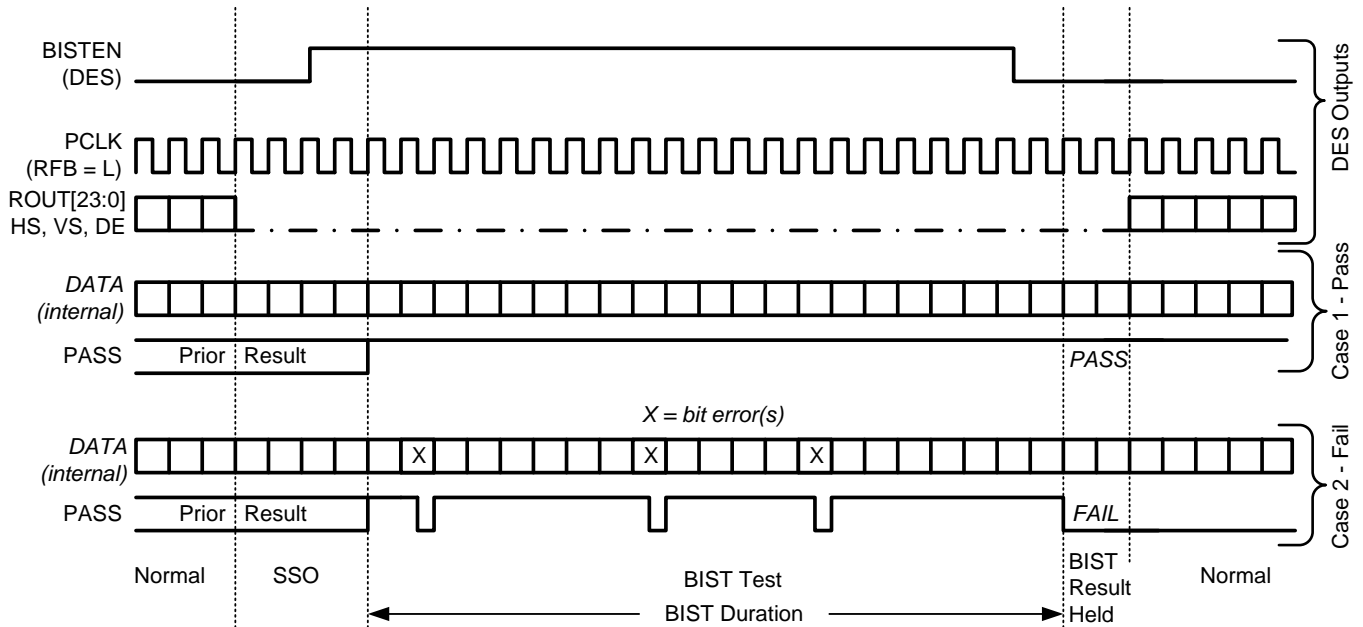

Figure 17. Bist Waveforms
**Step 4:** The Link returns to normal operation after the deserializer BISTEN pin is low. Figure 17 shows the waveform diagram of a typical BIST test for two cases. Case 1 is error free, and Case 2 shows one with multiple errors. In most cases it is difficult to generate errors due to the robustness of the link (differential data transmission etc.), thus they may be introduced by greatly extending the cable length, faulting the interconnect, reducing signal condition enhancements (Rx Equalization).